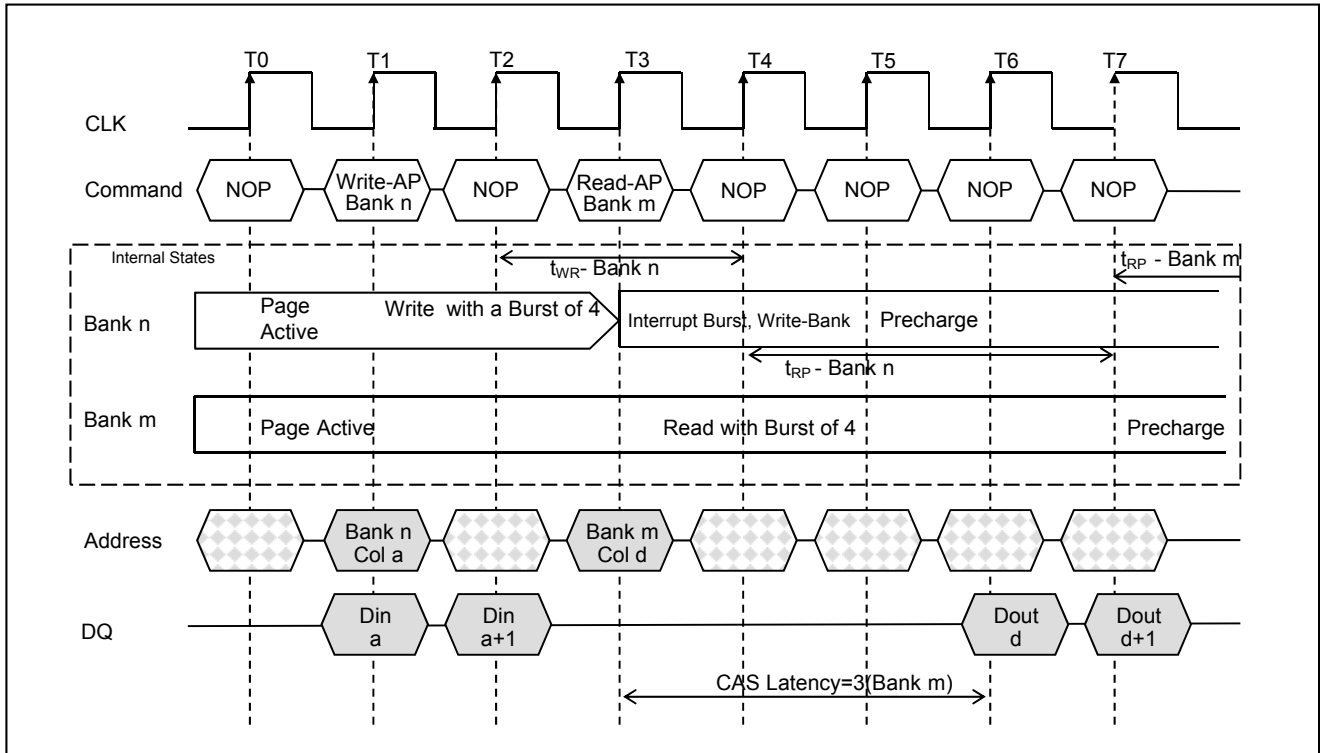

Figure 27. Write with Auto Precharge Interrupted by a Read(CAS Latency =3)
3. Interrupted by a Read(with or without auto precharge): A Read to bank m will interrupt a Write on bank n when registered , with the data-out appearing CAS latency later. The Pre-charge to bank n will begin after  $t_{WR}$  is met, where  $t_{WR}$  begins when the Read to bank m is registered. The last valid Write to bank n will be data-in registered one clock prior to the Read to bank m.(Figure 27. )